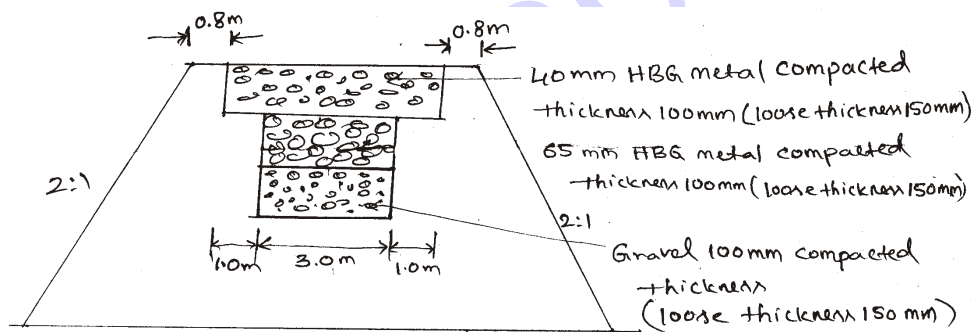

Fig. 5
15. A WBM road is proposed to be laid for a length of 2 km as shown in Fig. 5. Prepare a detailed estimate for the following items :